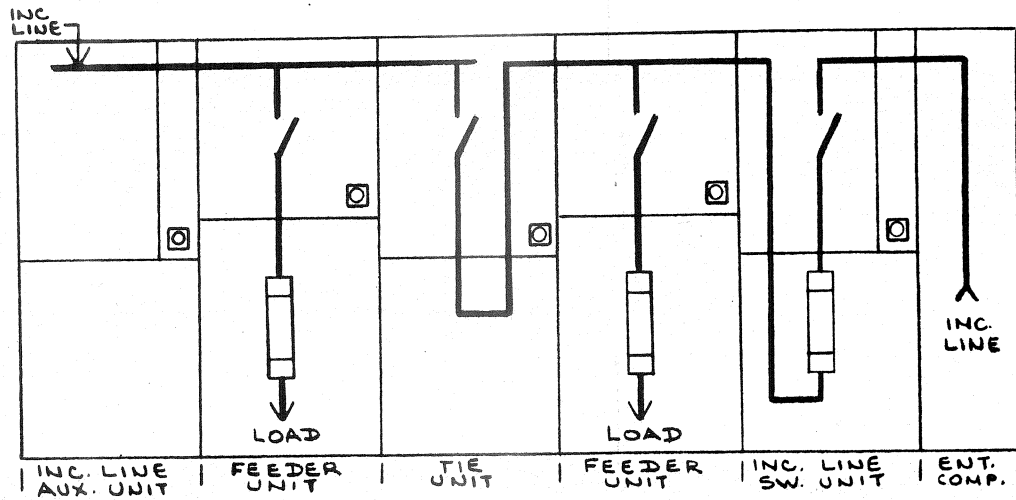

FIG. 1
- Line-up equipments - (Fig. 1)
1. Line-Up Equipment - Fig. 1